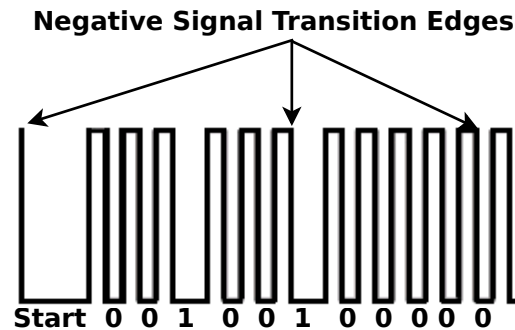

Figure 2: PWM Encoded Pulse Train for IR Remote
- IR remote control:** The basic principle of an IR remote control is to utilize infrared light for transmitting short control messages from the remote control to the IR receiver. Pulses of infrared light which represent specific binary codes are transmitted from the IR remote . These binary codes correspond to commands such as ‘Power On/Off’, ‘Volume Up/Down’, etc. The receiving hardware decodes the pulses of light back into binary codes and uses them to command the device under control. The IR remote we will be using encodes the binary data using Pulse Width Modulation as seen in Figure 2. In addition to the binary data pulses, each pulse train consists of a ‘START’ pulse. A negative edge transition separates each pulse.
- (d) Using Figure 2 as a guide, measure the length of the 'Start', '0', and '1' pulses. You will need to use the time axis cursors on the oscilloscope to do this. Try to make your measurements as accurate as possible and note them in your lab manual.